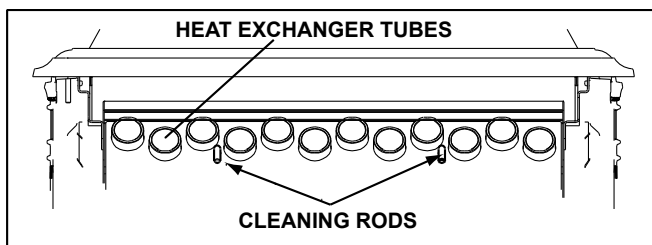

Figure 27.1
- Allow the appliance to completely cool down before pulling the cleaning rods. Turn the thermostat on and then immediately off to start the exhaust blower on its cycle time. It will pull fly ash out the exhaust instead of into the room. Open the cast hinged face to access the 2 cleaning rods. **See Figure 27.1.**